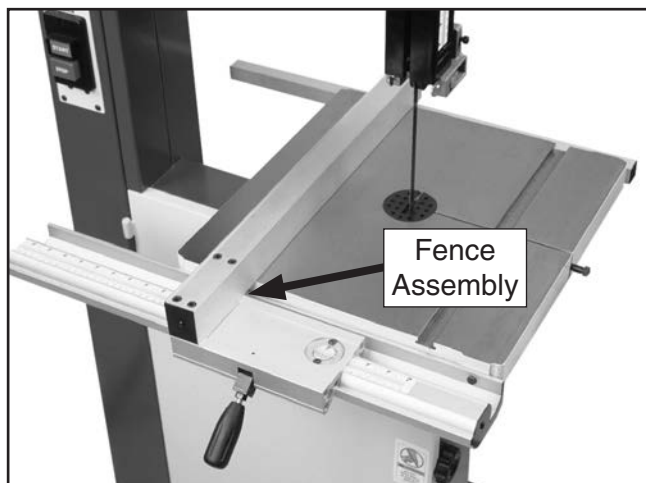

Figure 27. Fence assembly installed on G0513 and G0513ANV.
4. Pull the fence handle up and place the fence assembly on the front rail (see **Figures 27–28**).